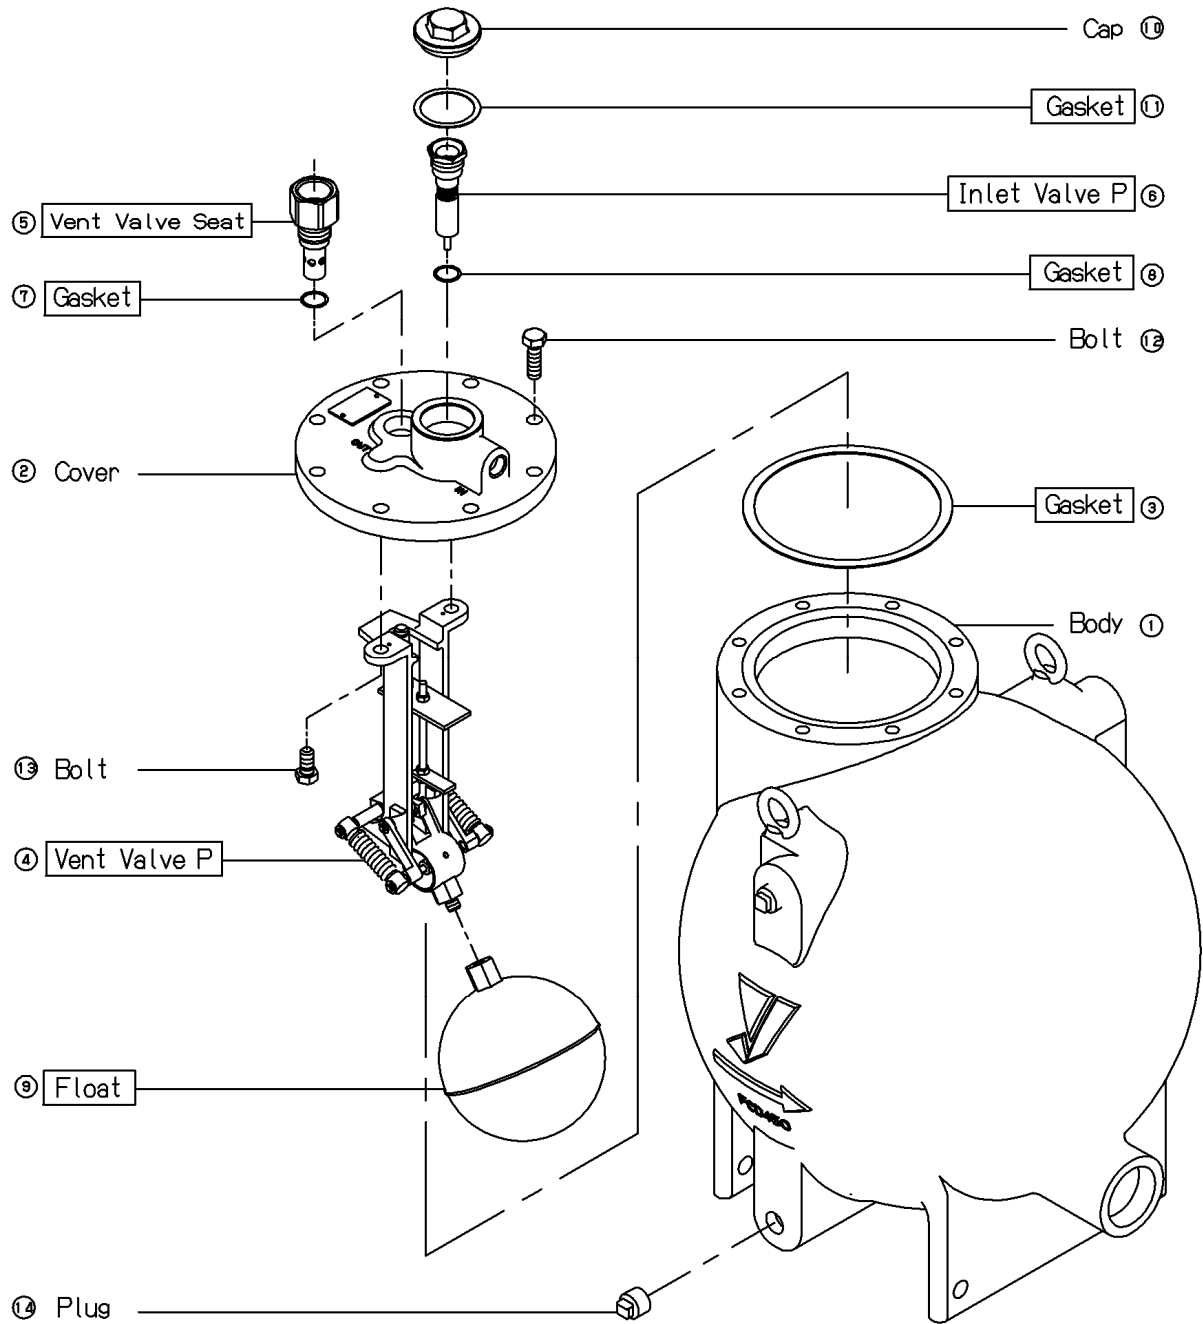

Fig. 8. Exploded view
8.3 Troubleshooting (See 6.1 Piping example for marks and numbers of stop valves, and see Fig. 8 for the numbers inside the brackets [].)
8.4.1 Warning and caution for disassembly/assembly (See Fig. 8 for the numbers inside the brackets []).
8.4.2 Disassembly method (See Fig. 8)
8.4.3 Assembly method (See Fig. 8)